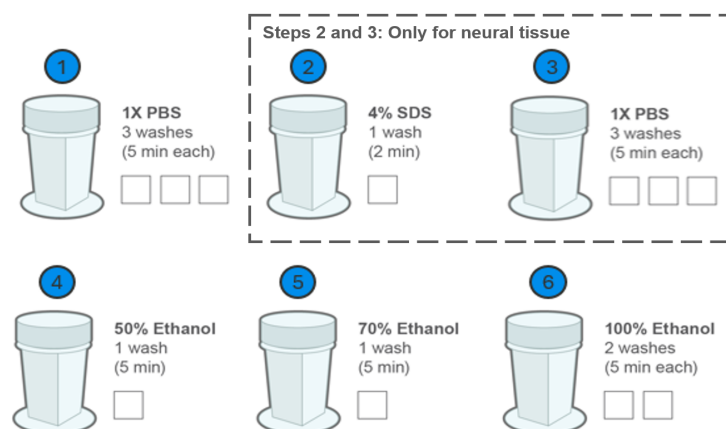

Figure 29: Rehydrate and Fix Tissue
1. After NBF fixation, gently perform the following washes in staining jars (Figure 29). **Wash Steps 2 and 3 (4% SDS and 1X PBS) are only for neural tissue. For other tissue types, proceed from Wash Step 1 (1X PBS) to Wash Step 4 (50% ethanol).**